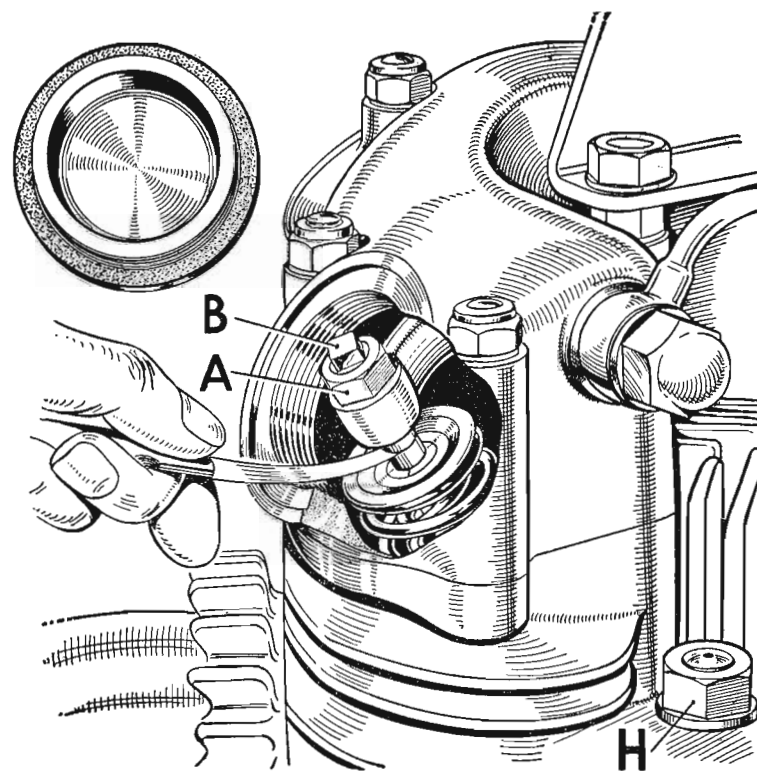

Fig. 4. Tappet adjustment.
Rotate the engine forward until the inlet valve has just closed, i.e. the push rod is just free to rotate. This is the correct position for checking or adjusting the exhaust valve clearance. Slide a feeler gauge between the end of the valve and the adjusting pin as shown in Fig. 4. If the clearance requires adjusting slacken the locknut (A) and adjust the pin (B), until the correct feeler gauge will just slide between the valve and the pin.
Set the piston at top dead centre on the compression stroke (i.e. both valves closed) and take off the four nuts (H) Fig. 4, holding the cylinder head to the barrel. Leave the rocker box assembly in position on the cylinder head, and raise the latter until it clears its fixing studs. Rotate the whole assembly about the push rods so as to clear the frame top tube, and lift off. Take the push rods out of their housing and on the 250 c.c. models the housing itself can be removed. Note that there are sealing rings at the top and bottom joint faces of the housing on these models, and if there is any sign of oil leakage at the joints, the seals should be replaced. The rocker box can now be removed from the cylinder head, thus exposing the valves and springs. If it is necessary to dismantle the rockers and spindles take care not to damage the rubber sealing rings, when inserting the spindles into the rocker box.